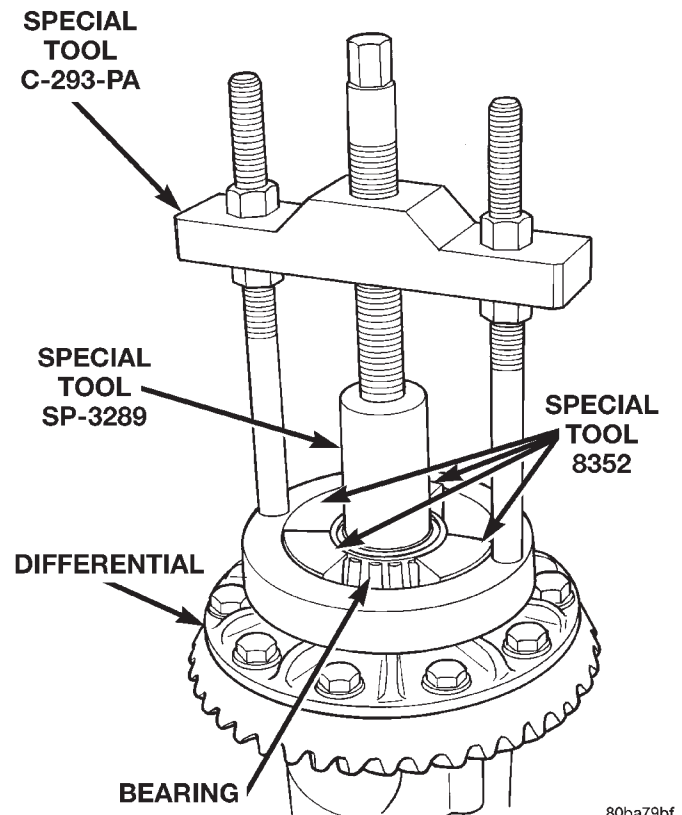

Fig. 40 Differential Bearing Removal
- (1) Remove differential case from axle housing.
- (2) Remove the bearing from the ring gear side of the differential case with Puller/Press C-293-PA, Adapter Blocks 8352, and Plug SP-3289 (Fig. 40).
- (3) Remove the Vari-lok™ plenum from the differential case hub.